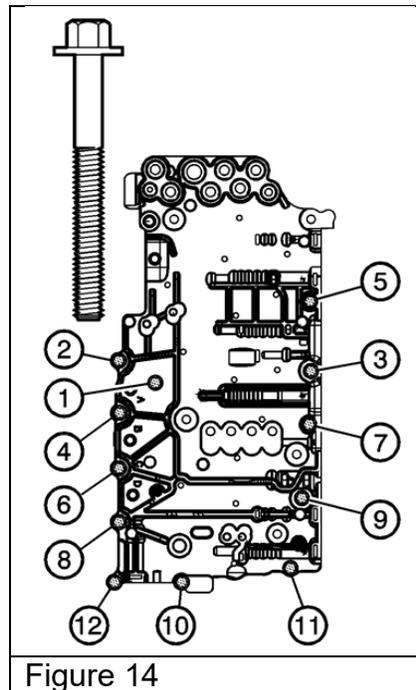

Figure 14
20. Install the twelve (12) M5x36mm bolts in the sequence shown below. Torque to 8 N•m (71 lb. in). See Figure 14.